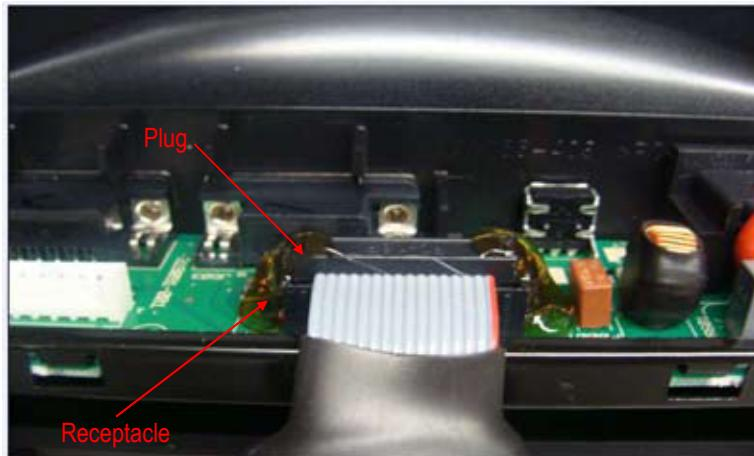

FIG. 1
**Solution:** : Apply hot melt to connector J602 on the IOPCB (see FIG.1) and connector J7100 on the DSP PCB (see FIG. 2). Ensure connectors are fully seated before applying hot melt